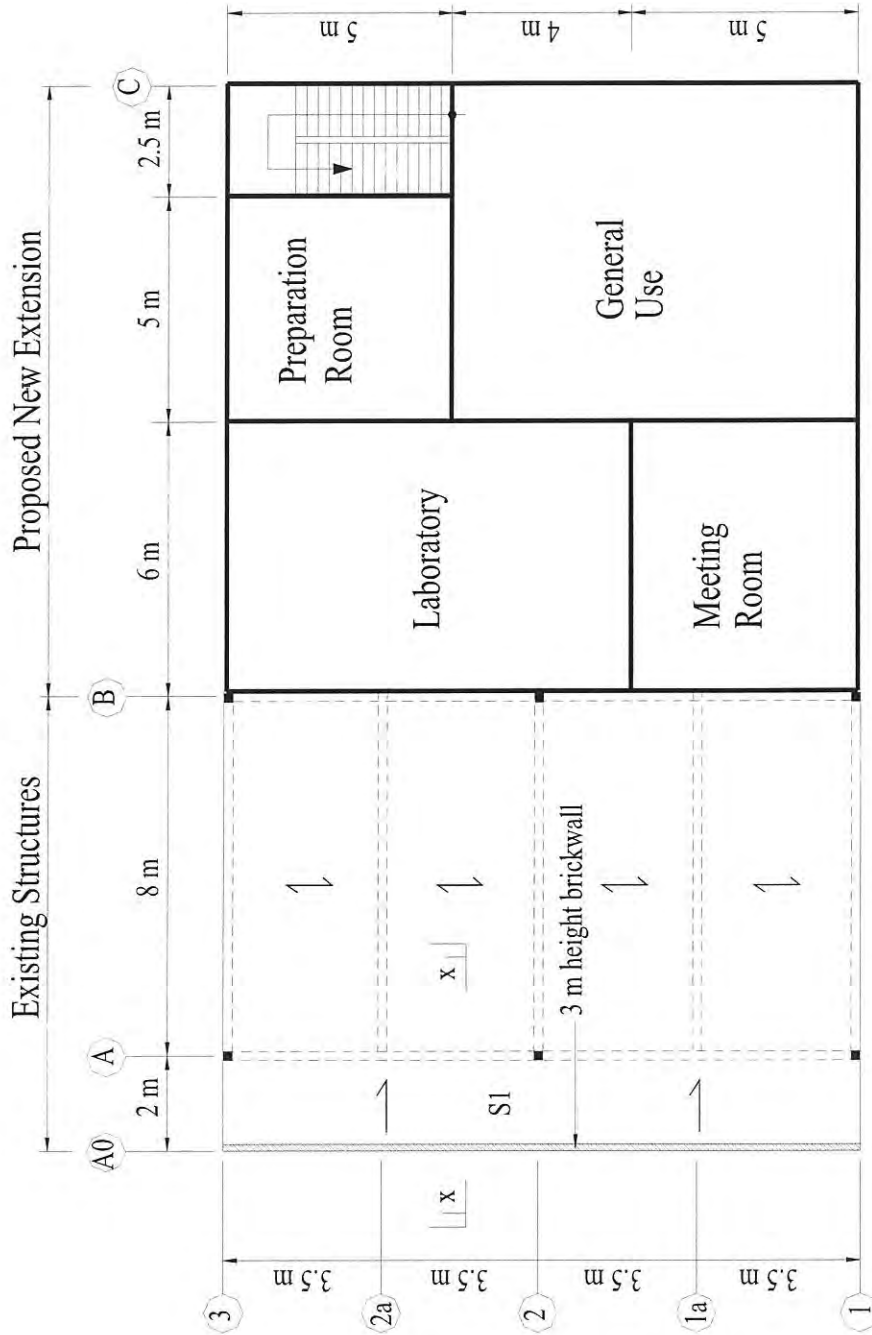
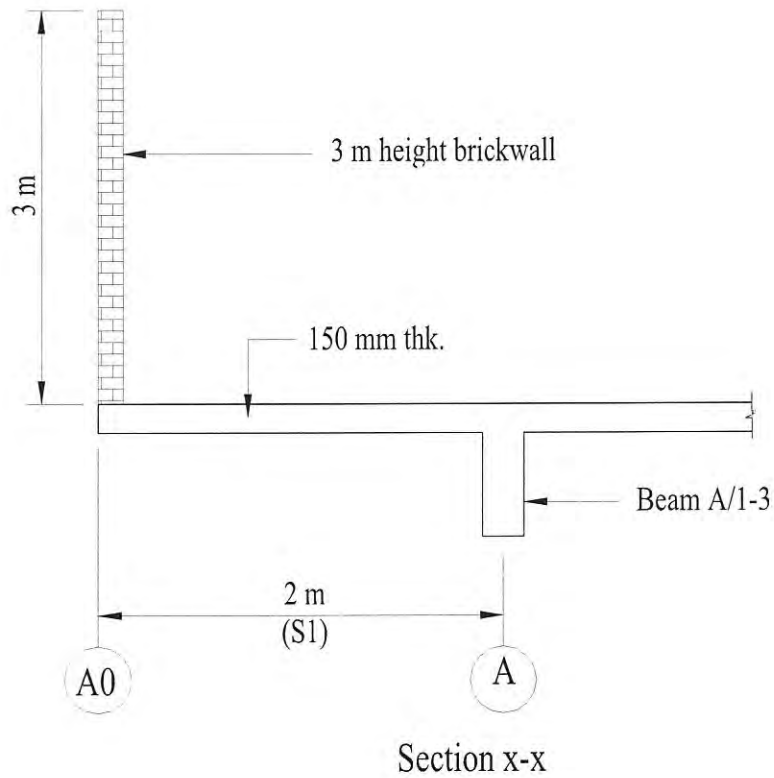

FIGURE Q1
FIGURE Q2
- Q1** **Figure Q1** shows the layout plan at first floor for a double storey building. The layout plan consists of two parts, where A0-B/1-3 is the existing structure plan and B-C/1-3 is the proposed new extension. All beams, columns and slabs are reinforced concrete. The concrete for the beam and slab is cast simultaneously.
- Q2** Based on the information given in **Q1** and **Figure Q1**. The slab A0-A/1-3 (S1) is a cantilever slab supported by beam A/1-3. A 3 m height brickwall is sitting at the edge of the slab along gridline A0/1-3. The cross section of the cantilever slab is shown in **Figure Q2**.
Q3 Referring to **Figure Q1** and based on the information given in **Q1**. Beam 2/A-B of 250 mm x 650 mm is a simply supported flanged beam.